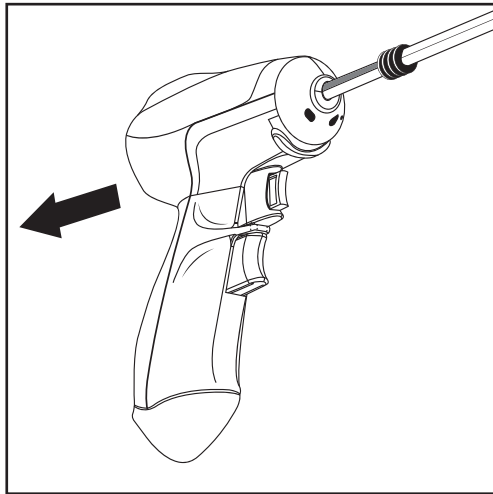

Figure 16. Holding Shaft Steady in Patient, Withdraw the Handle Just Sufficiently to Draw the Needle into the Shaft Tip (1 inch minimum).
- Hold the shaft firmly in position and withdraw the handle just sufficiently to draw the needle into the shaft tip (1 inch minimum) (Figure 16).